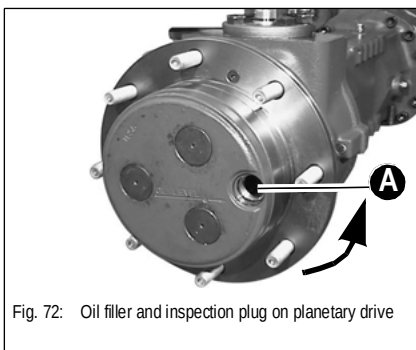

Fig. 72: Oil filler and inspection plug on planetary drive
- 8 Place opening **A** in the position shown in fig. 72 (plug must be in horizontal position)